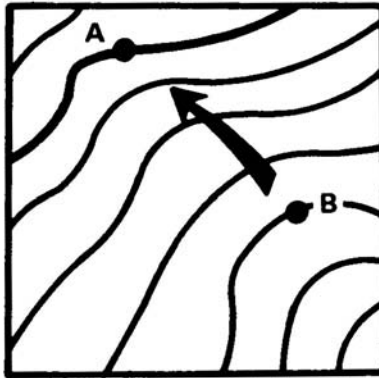

Figure 071-329-1004-1. Contour lines
a. The brown lines on the map are called contour lines. Each line shows the height above sea level. Contour lines never cross one another. Printed at the bottom of the map is the contour interval, which is the difference in height (elevation) between one brown line and the one on either side of it. On a map with a scale of 1:50,000, the contour interval is usually 20 meters. This would make Point A 80 meters higher or lower than Point B (figure 071-329-1004-1).
b. You can easily tell from the brown lines the direction of uphill or downhill, because every fifth line is heavier and has a number that gives its elevation. Suppose the contour interval is 20 meters. Now you can tell that Point B. Also, if you know the distance between A and B, you can get an idea of the steepness of the slope (figure 071-329-1004-2).